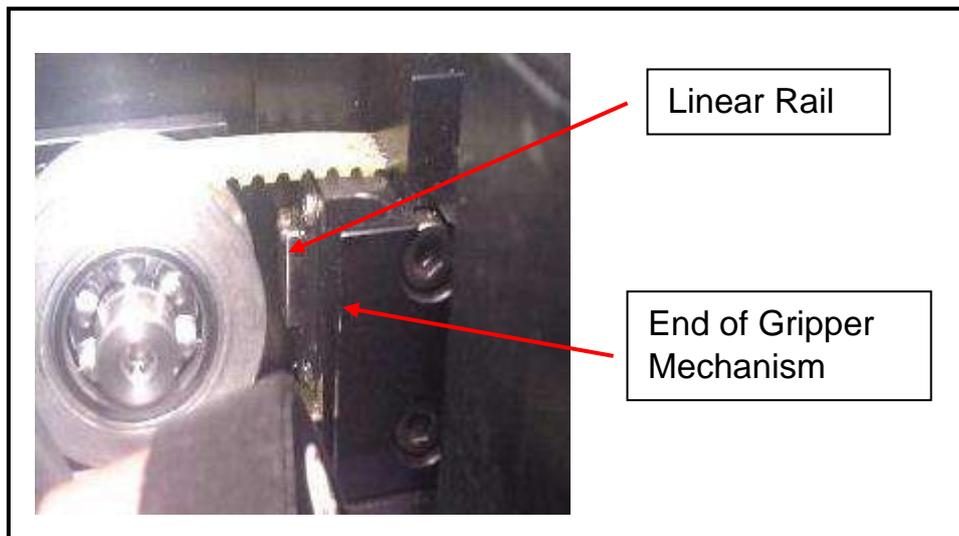

Fig: 34
22. Position the microscope so that the well plate rests against the tabs located on the back and left side of the stage insert. (Fig 34)